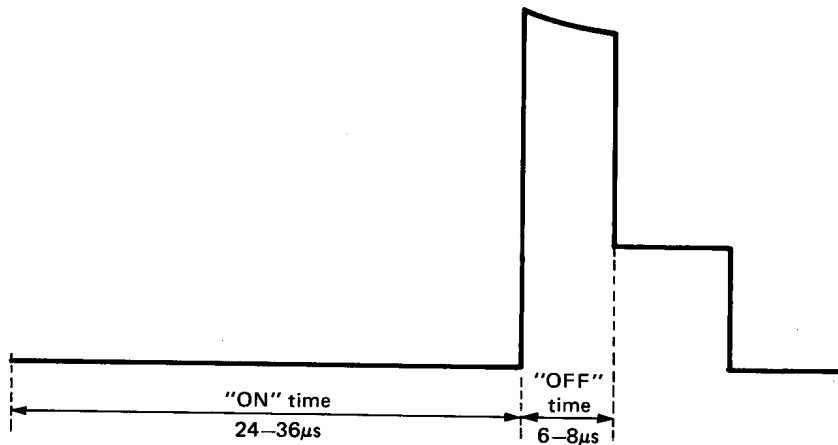

Fig. 3.1
- Check that the waveform on TP4 is as shown in Figure 3.1. If the "ON" time is less than $24 \mu\text{s}$, short SP150. To synchronise the waveform, it is convenient to trigger from the junction of R163 and R164.